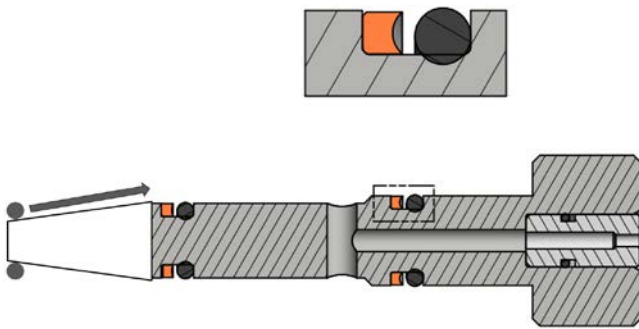

Figure 5 – O-ring Installation Kit
- 9.4 Slide seals onto seat holder using the *O-Ring Installer Tool*, see Figure 5. Install backup rings (orange in Figure 5) on the low pressure side of the O-rings. Make sure the backup ring is lined up at the joint.